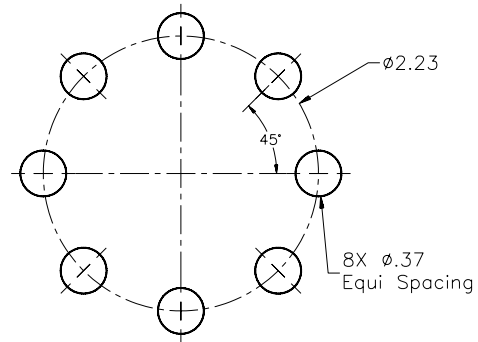

Figure 22-46 Dimensioning a bolt circle
21. A bolt circle should be dimensioned by specifying the diameter of the bolt circle, the diameter of the holes, and the number of holes in the bolt circle (Figure 22-46).